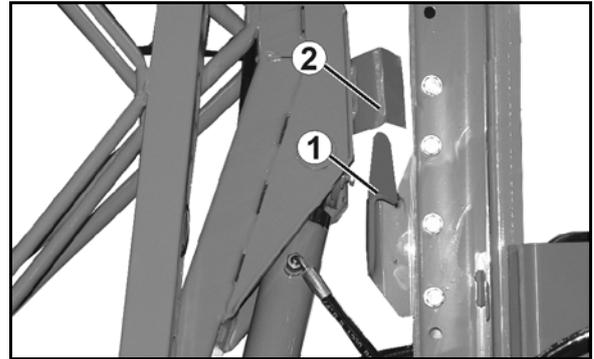

Fig. 80
- the boom is locked using the safety clip (Fig. 80/1).